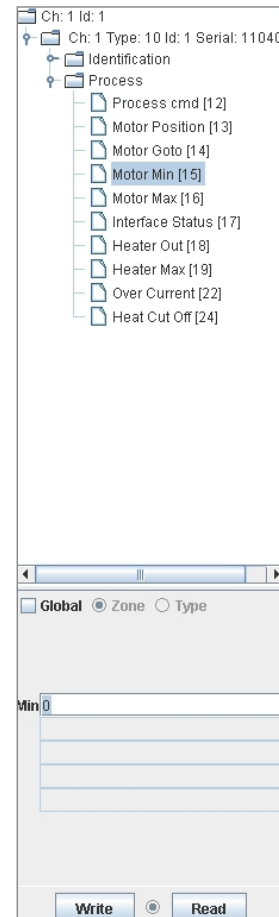

Figure 4
- » Click “**Motor Min**” and enter desired motor minimum percentage, 0-100. *See Figure 4 below.*